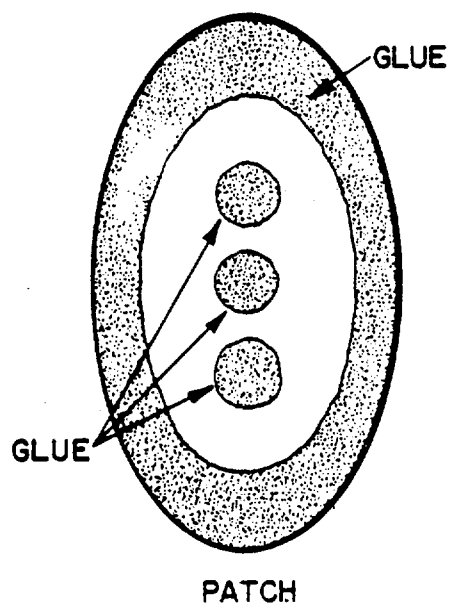

Figure 4-3. Abrasion, Repair.
- (3) *Abrasion.* (figure 4-3).
- (4) *Neckpiece.*
- (5) *Zipper.*